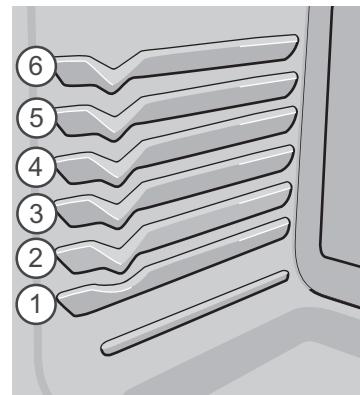

Figure 27: Oven rack positions
- Place pan in oven on rack position 3 (Figure 27) and close oven door. Accela-Heat is designed for baking on a single oven rack placed in the center of the oven.